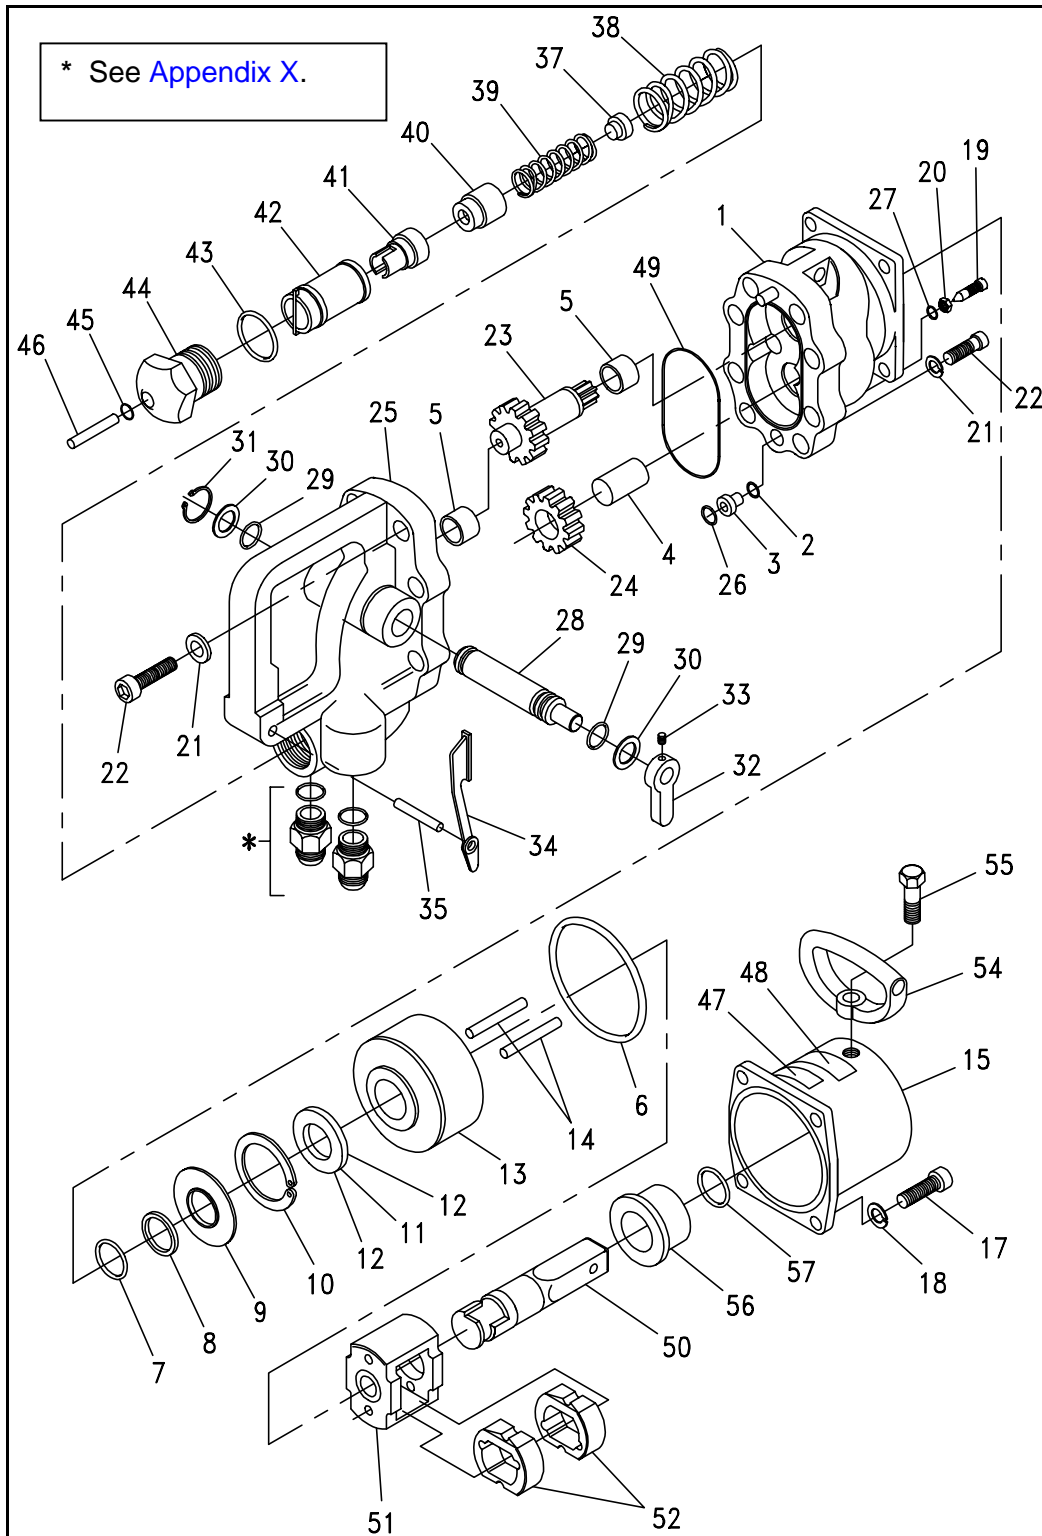

Figure O-3. IW24 Impact Wrench Components (Sheet 1).
- f. Using MIL-G-24139A, lubricate and install the O-ring (7) on the main shaft (23). Install the back-up ring (8), back-up washer (9) and retaining ring (10).
- g. Using MIL-G-234139A, Lubricate the thrust bearing (11) between the thrust washers (12) and install the main shaft. Install the hammer case O-ring (6) and replace the mechanism. (See Figure O-3 for thrust bearing part sequence).
- h. Install four socket head cap screws (17) and lock washers (18). Torque 13-15 foot-lb.
- a. Remove the internal hex set screw (33, Figure O-3) securing the reversing spool lever (32) and remove the lever (32) from the reversing spool.
- b. Remove the retaining ring (31) at the opposite end of the reversing spool.
- c. Pressing on the retaining ring end of the reversing spool (28), carefully slide the reversing spool "IN" just far enough to gain access to the back-up ring (30) and O-ring (29) on the "LEVER" side. Remove the back-up ring (30) and O-ring (29) with the appropriate O-ring tool.
- d. Pressing on the lever end of the reversing spool (28), carefully slide the reversing spool (28) out of the valve housing (25). Remove the back-up ring (30) and O-ring (29) with the appropriate O-ring tool.
- e. Remove the trigger (34) by tapping the roll pin (35) out of the valve housing.
- f. Unscrew the spool cap (44), pull the needle roller (46) from the spool cap (44) and then remove the O-rings (43 & 45).
- g. Slide the valve spool (42), relief seat (41), relief poppet (40), spring rest (37), and two springs (38 & 39) out of the main housing. If the valve sleeve (not shown) requires replacement, replace the valve housing (25). The valve sleeve remains in the valve housing (25); it is not removable.
- h. Remove the retaining ring (10) at the impact mechanism end of the motor housing (1). Remove the seal back-up washer (9), back-up ring (8), and O-ring (7).
- a. Using MIL-G-24139A, lubricate and install the relief seat (41, Figure O-3) in the valve spool (42) (notched end aligned with strut), followed by the relief poppet (40), small spring (39) and spring rest (37).
- b. Set the large spring (38) on the open end of the valve spool (42).
- c. Hold the valve housing (25) so the motor side faces up then place the stacked parts inside the valve cavity. Turn the valve housing so the motor faces down.
- d. Using MIL-G-24139A, lubricate and install the two O-rings (43 & 45) on the spool cap. Install the needle roller (46), and screw the spool cap (44) into the valve housing (25). Tighten securely.
- e. Install the trigger (34) on the valve housing (25) using the roll pin (35).
Figure O-3 illustrates the IW24 Impact Wrench components.